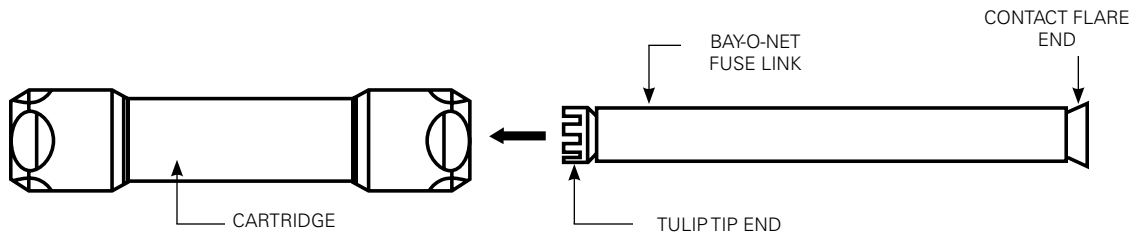

Figure 7. Insertion of Bay-O-Net link into cartridge.
- Insert new fuse link (element) into cartridge from either end (a slight resistance may occur). (Refer to Figure 7.)